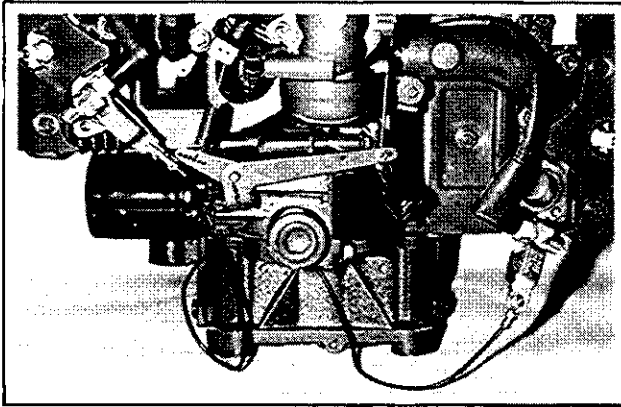

Figure 8-2. Ignition System Tester.
3. Check ignition module using test plugs (refer to the "Special Tools" section and Figure 8-2.) <ul style="list-style-type: none"> <li>a. Remove the high-tension leads from the engine spark plugs, and connect them to the test plugs.</li> </ul> <p style="margin-left: 20px;">NOTE: To maintain engine speeds normally obtained during cranking, do not remove the engine spark plugs.</p> <ul style="list-style-type: none"> <li>b. Make sure the engine ignition switch (kill switch) and/or keyswitch are in the "run" position.</li> <li>c. Crank the engine and observe the test plugs. Visible and audible sparks should be produced.</li> </ul>	If visible and audible sparks ARE produced, the ignition module is OK.  If visible and audible sparks ARE NOT produced: <ul style="list-style-type: none"> <li>a. Make sure engine ignition switch and/or keyswitch are in the "run" position.</li> <li>b. Check wires and terminals of ignition module and other components for accidental grounding and/or damaged insulation.</li> <li>c. If wires and terminals are OK, the ignition module is probably faulty and should be replaced. Test module further using an ohmmeter (Test 4).</li> </ul>